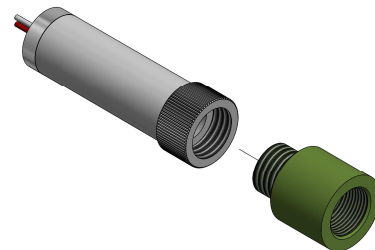

Figure 2: Thermal Barrier Installation
2. Screw the thermal barrier into the threads of the QRA4... flame scanner until it bottoms out and compresses the gasket inside the flame scanner as shown in Figure 2.